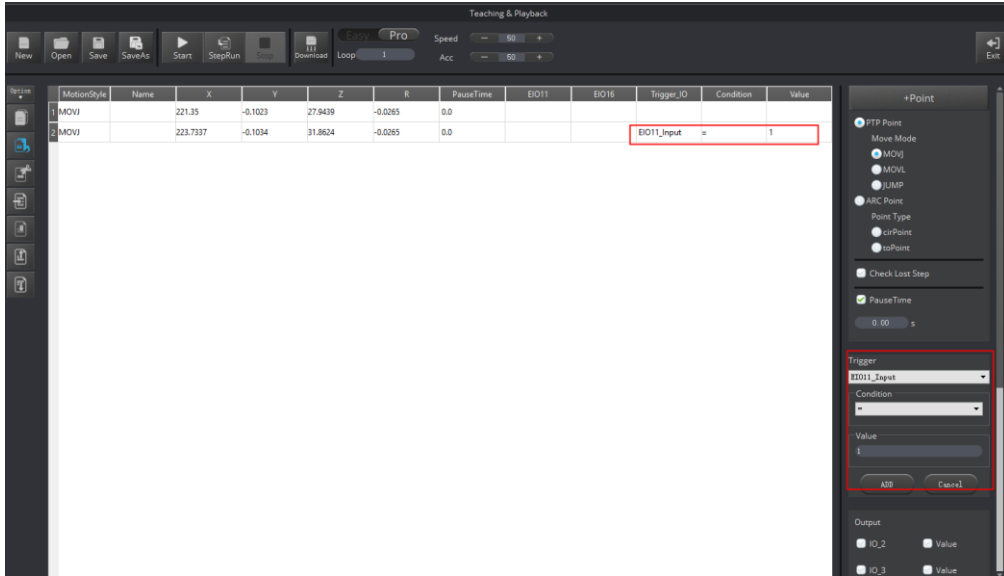

Figure 5.207 Saved point
Step 4 Click **ADD**, as shown in Figure 5.207.